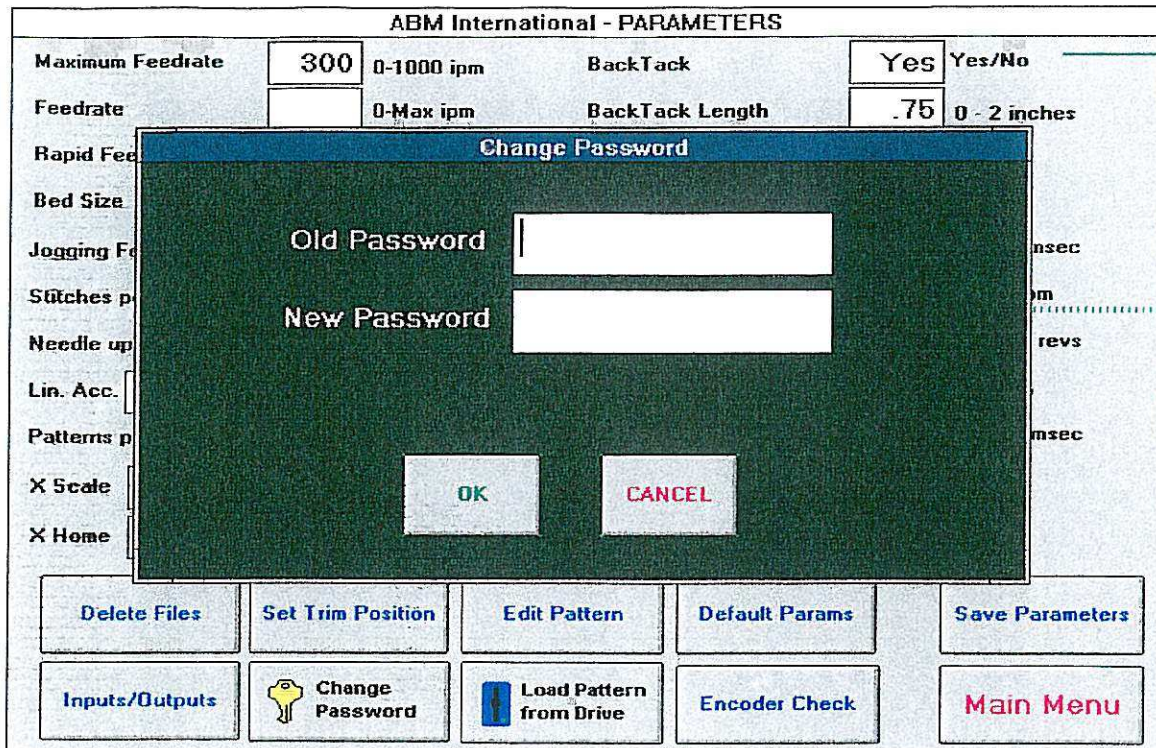

Figure 4.21
- A. Press the “Change Password” key a change password box will appear. See *Figure 4.21*.